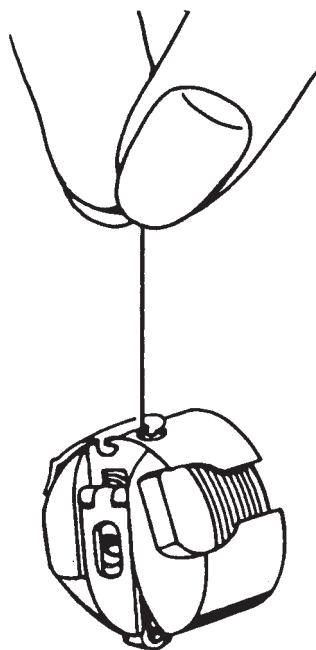

Fig. 73
- Upon sharp upward movements of the hand, the thread must run off gradually (fig. 73).